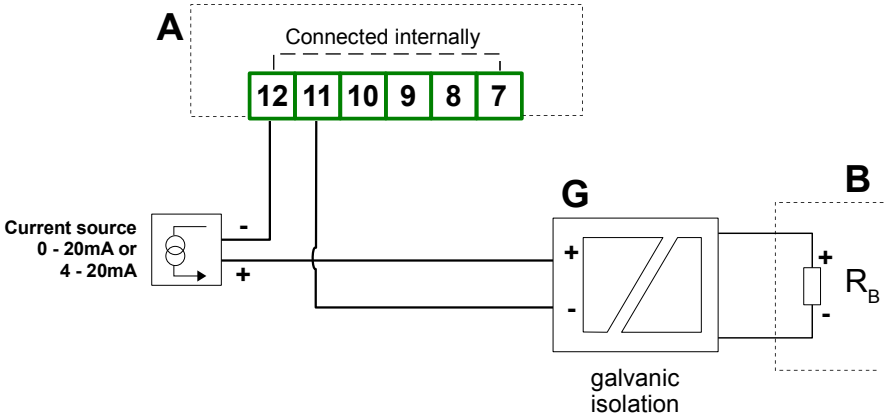

Figure 4.22. Serial connection of active 2-wire sensor with **SRP-N1186** unit and other current measurement device (e.g. PLC controller).
**SRP-N1186** meter has no galvanic separation between measurement input and RS-485 interface. If serial connection of multiple units is made or serial connection with other device, without galvanic separation of RS-485 interface, is made then RS-485 interface separators must to be used certainly (**Figure 4.22, 4.23**). If RS-485 interfaces are isolated or not used then the separators are not necessary.
If device **B** (**Figure 4.22, 4.23**) is equipped with galvanic separated input or if different potentials between **A** and **B** devices signal grounds are allowed (e.g. if RS-485 interface is separated or unused), current loop can be closed without separator **G**.